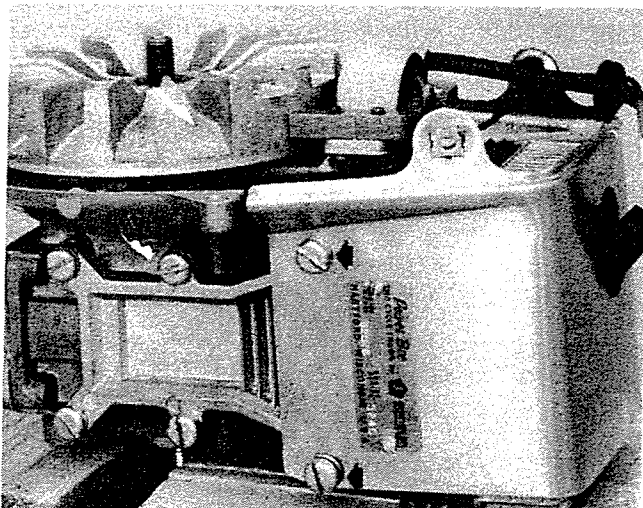

Figure 5. Removing Cylinder Cover.
4. Remove cylinder cover by removing four (4) screws. Figure 5.